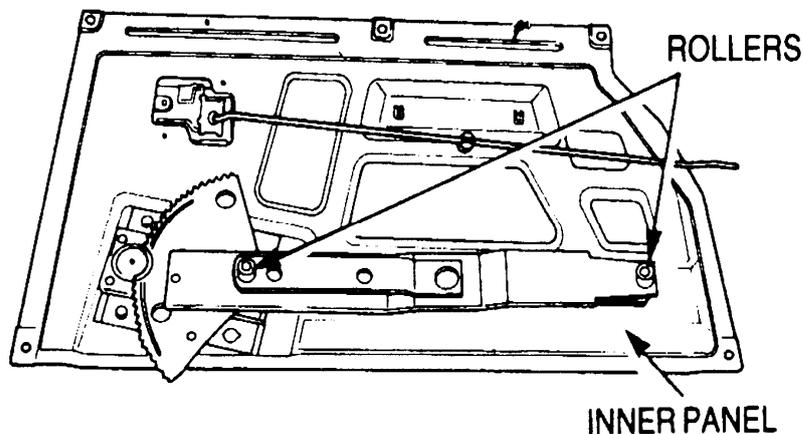

Figure 216 Window Regulator Roller Location
- t. Remove the inner panel from the door (Figure 216).